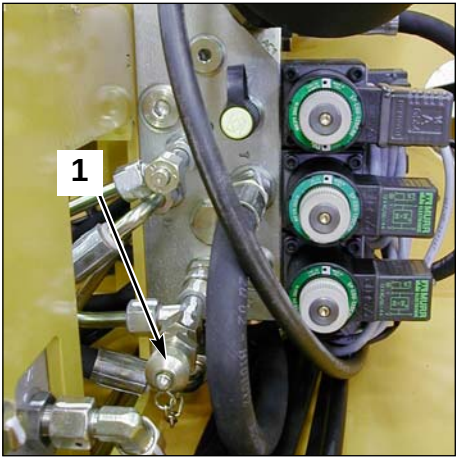

Fig. 4 Assistance pressure unit
- 4- Measure the difference in pressure between (1 fig. 3) and (1 fig. 4) using the two manometers.